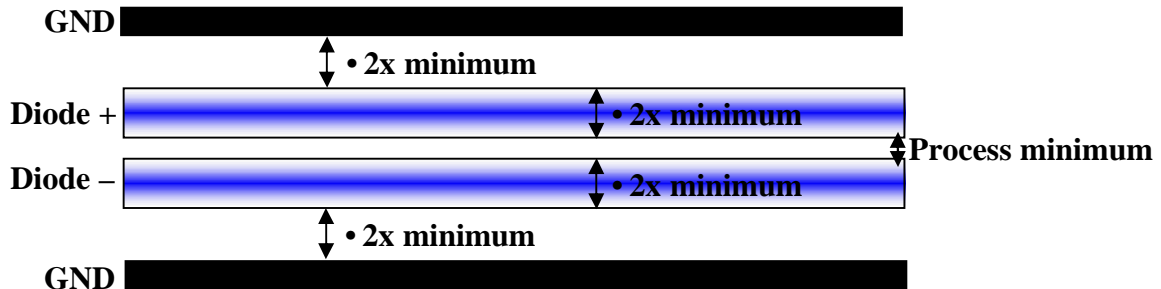

Figure 3. On-ASIC Routing
- Recommended differential routing widths and shielding are shown in Figure 3.